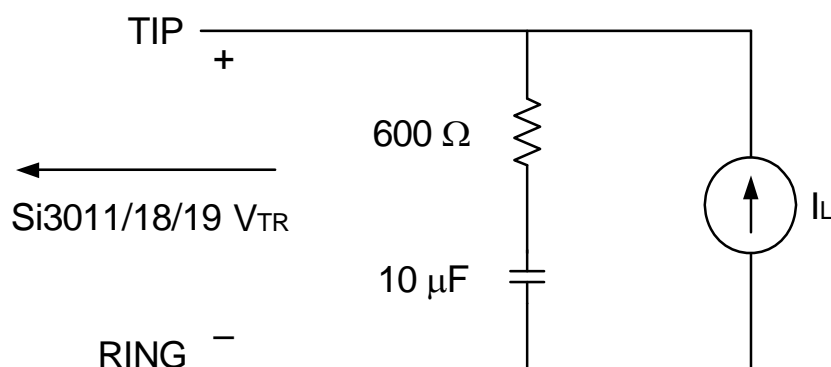

Figure 1. Test Circuit for Loop Characteristics
($V_D = 3.0$ to 3.6 V, $T_A = 0$ to 70 °C, see Figure 1 on page 6)
1. Measured at TIP and RING with 600 Ω termination at 1 kHz, as shown in Figure 1 on page 6.
1. Measured at TIP and RING with $600\ \Omega$ termination at 1 kHz, as shown in Figure 1 on page 6.